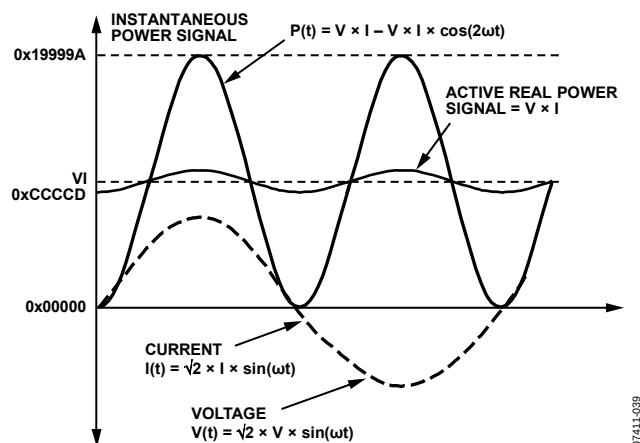

Figure 64. Active Power Calculation
Note that the active power is equal to the dc component of the instantaneous power signal, $P(t)$, in Equation 9, that is, VI . This is the relationship used to calculate active power in the ADE5166/ADE5169/ADE5566/ADE5569. The instantaneous power signal, $P(t)$, is generated by multiplying the current and voltage signals. The dc component of the instantaneous power signal is then extracted by LPF2 (low-pass filter) to obtain the active power information (see Figure 64).
As mentioned in the Active Energy Calculation section, the discrete time sample period (T) for the accumulation register is 1.22 μ s (5/MCLK). With full-scale sinusoidal signals on the analog inputs and the WGAIN register (Address 0x1D) set to 0x000, the average word value from each LPF2 is 0xCCCCD (see Figure 64). The maximum positive value that can be stored in the internal 49-bit register is 2^{48} (or 0xFFFF FFFF FFFF) before it overflows. The integration time under these conditions when WDIV = 0 is calculated in the following equation: